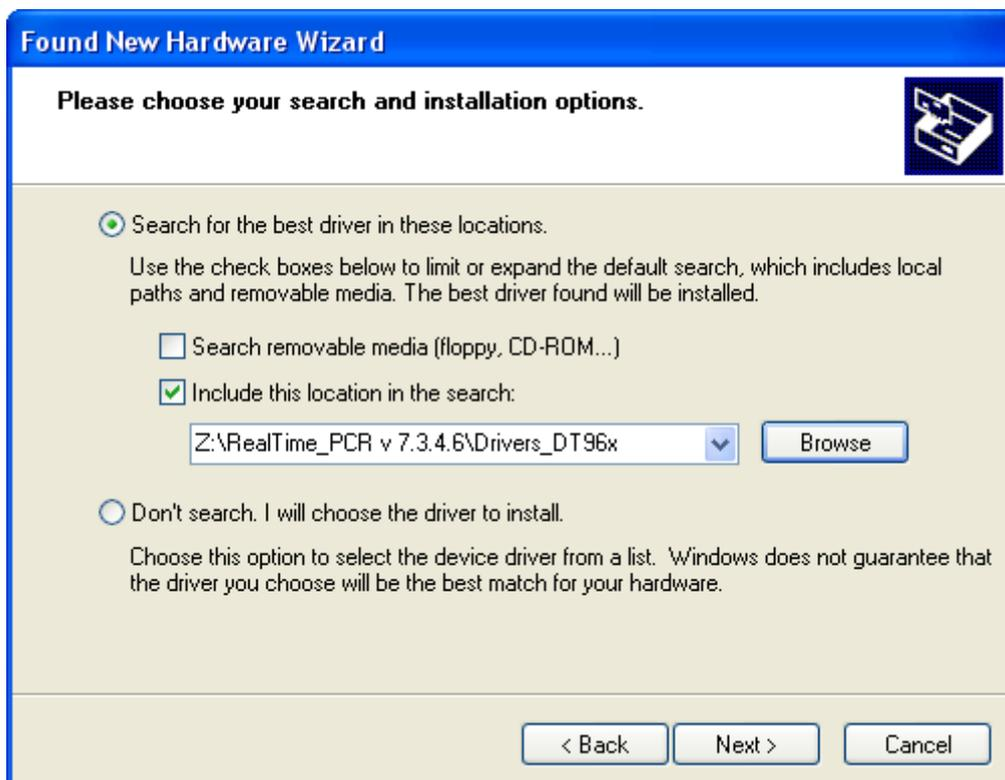

Fig.6 Searching Drivers_DT96x folder on the USB flash drive
- Select a path to the driver folder by ticking **Add this location to the search** and click  (Fig.6).
- Making sure the driver folder path is correct (Fig.6), click .